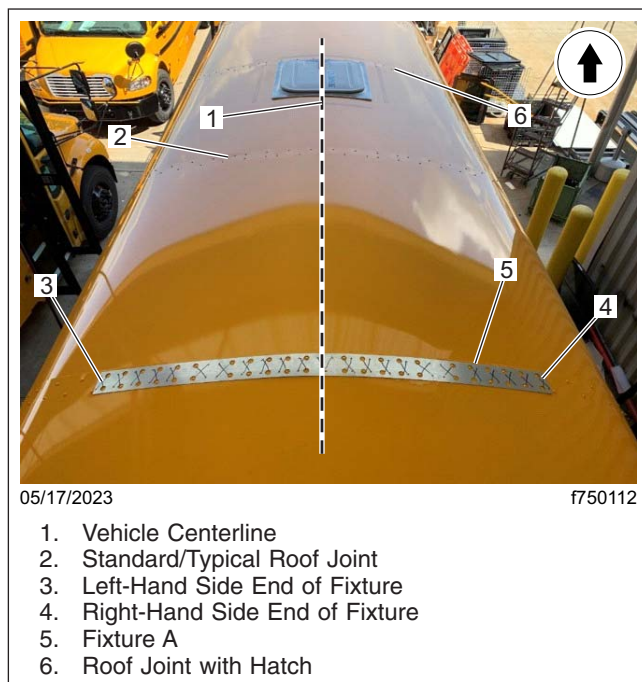

Fig. 8, Standard Joint Repair
11. To repair the standard roof joint, place the fixture A over the center rivet of the roof joint on the vehicle, as shown in **Fig. 8**.